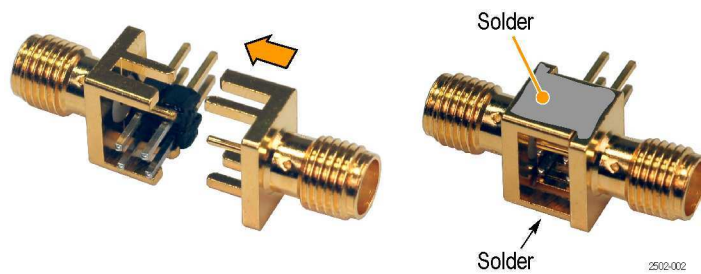

Figure 7: Solder the SMA connectors together
5. Align the second SMA connector to the first as shown and solder the center conductors of the connectors together. (See Figure 7.)